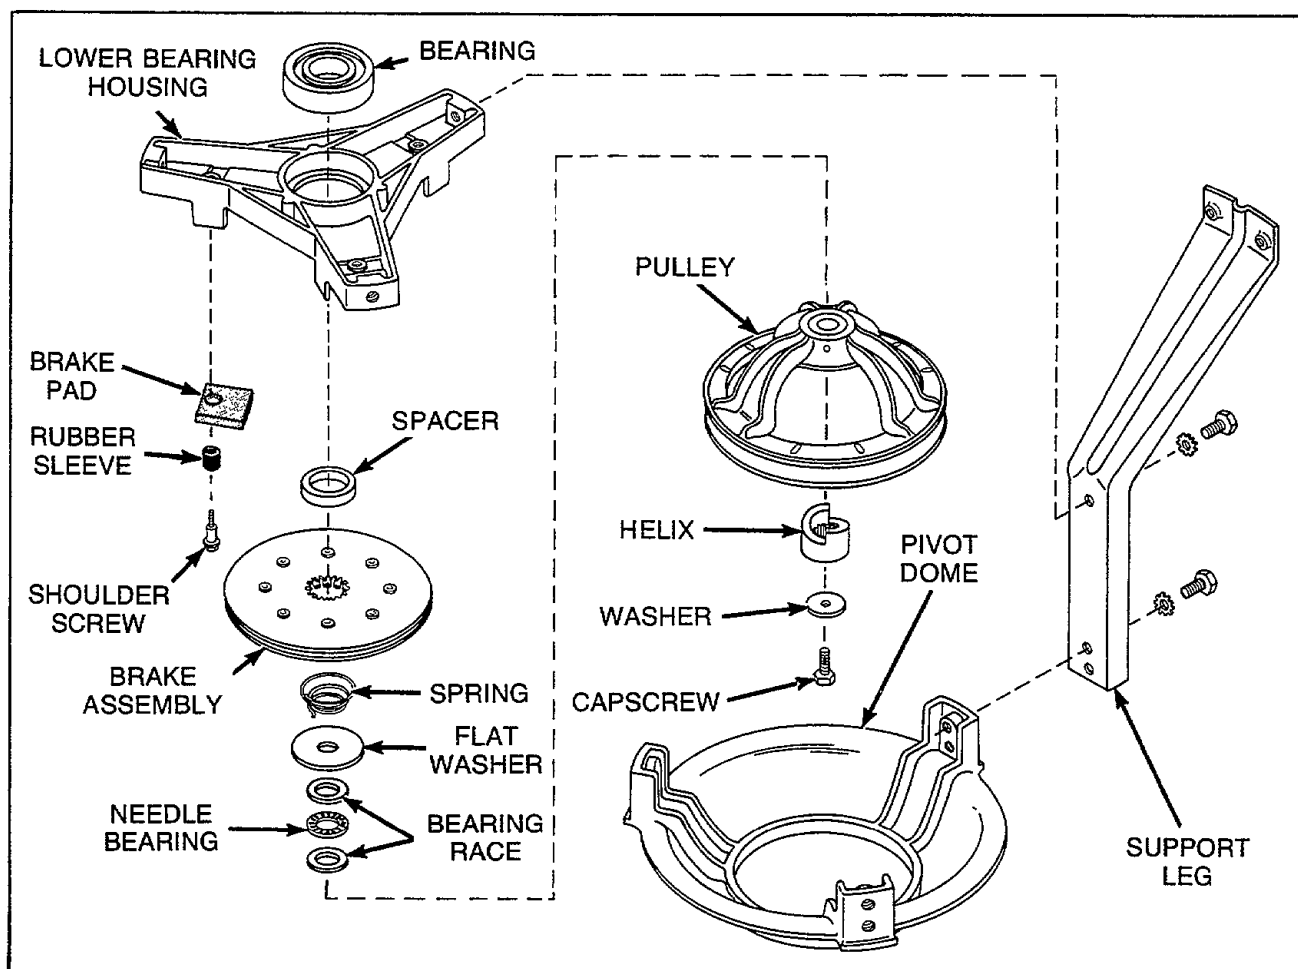

Figure 28
IMPORTANT: When reassembling, large flat washer, bearing race, needle bearing and bearing race must be in place, see *Figure 28* for assembly sequence.
- c. Remove three shoulder screws holding brake pads, rubber sleeves and brake assembly to lower bearing housing, *Figure 28*, then remove brake assembly, pads and spacer off bottom of transmission assembly.
NOTE: Refer to *Figure 28* for assembly sequence.
- o. Remove drive pulley from transmission shaft, *Figure 28*.
- p. Remove needle bearing, bearing races and large flat washer from transmission shaft, *Figure 28*.
sleeves holding brake pads to lower bearing housing, *Figure 28*.
- t. Remove three cap screws and lockwashers holding lower bearing housing to tub support legs, *Figure 28*.